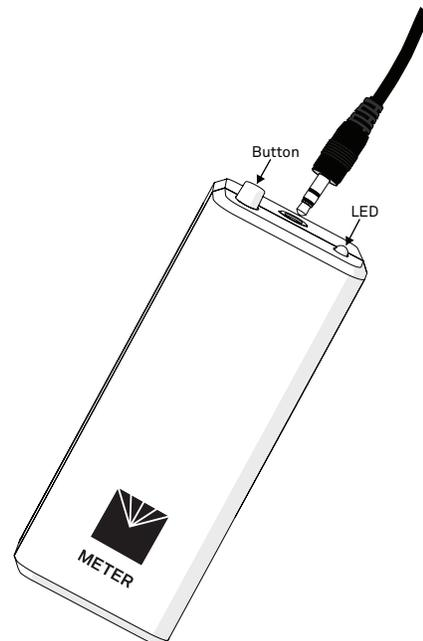

Figure 9 Plug sensor stereo connector into ZSC
2. Plug the sensor stereo connector into the ZSC stereo port (Figure 9).